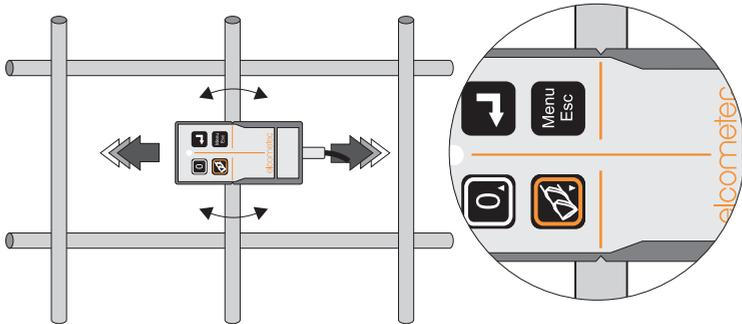

Figure 17. Search head aligned at 90°
- Rotate the search head until it is at 90° (orthogonal) to the bar. Use the notches in the sides of the search head and the line across the top of the search head to aid alignment (Figure 17). The sound/signal will be at a minimum when the search head is aligned at 90° to the bar and the notches/line are in line with the bar.
When taking the orthogonal reading (Figure 17), the search head should be getting the minimum possible signal from the bar; any misalignment of the search head in either angle or position can only increase this signal.